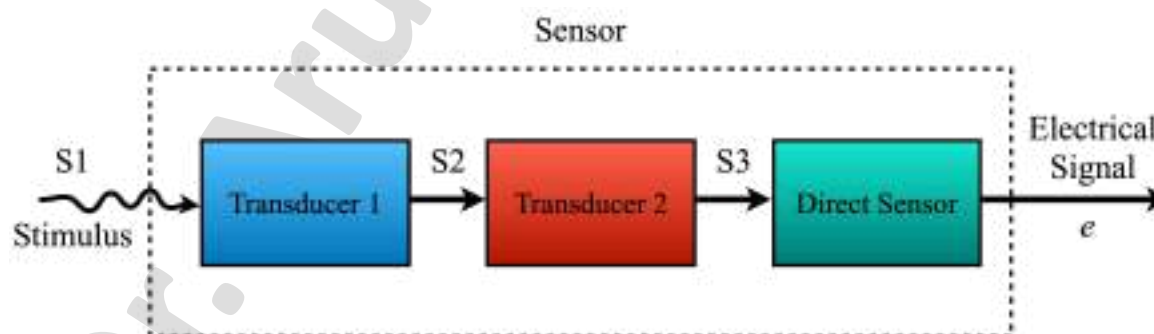

Fig. 27: Block diagram of sensor
- A sensor is a device that receives a stimulus (measurand) and responds with an electrical signal. A sensor may have several energy conversion steps before it produces and outputs an electrical signal since most stimuli are not electrical. Any sensor is an energy converter. In a sensor system, different types of stimuli (S1, S2, and S3) interact with various transducers and sensors to produce an electrical signal output (e). Here's how the process works step by step as shown in Fig. 27